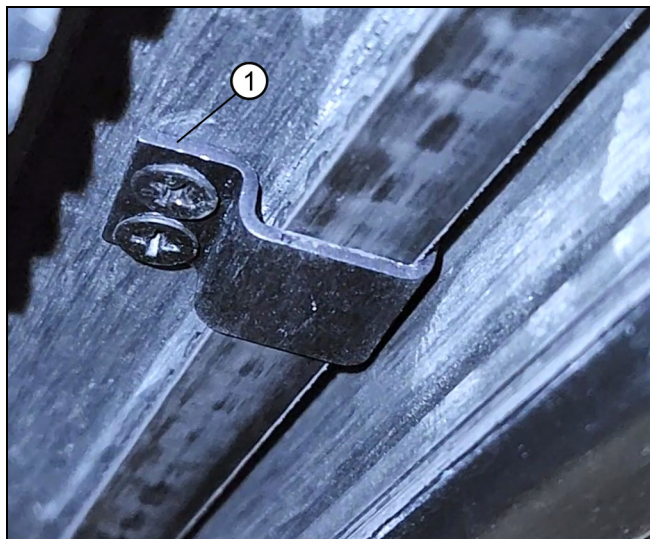

Figure 49
1. On large units, the belt clips can be installed to eliminate belt sag. Use the belt clip to hold the belt **(opposite of the turnbuckle or bi-parting bracket)** with teeth up against the head track. Fasten the belt clip in the head track with the screws provided. Pre-drilling may be necessary. See Figure 49.